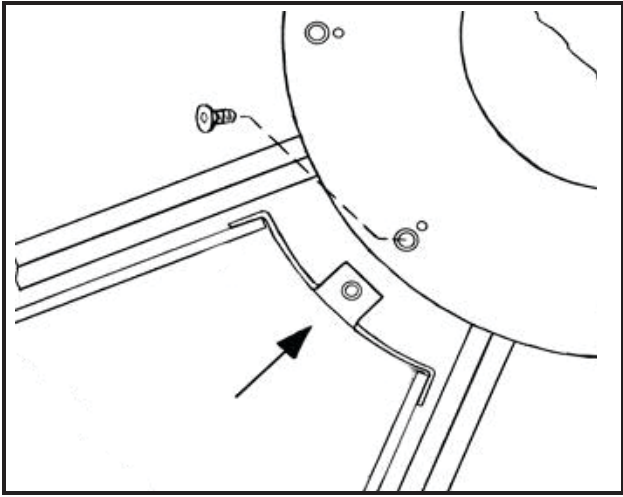

Fig. 35 — Nose to Hub Plate (ERC 81-86 ONLY includes screw)
5. For ERC-81 and ERC 86, use a 3/16 in. Allen wrench to remove the nose bolt securing the segment to the hub plate. See Fig. 35 for example to remove the nose bolt.
6. Remove segment by sliding outer portion of segment out first before disengaging the nose. See Fig. 35 for segment removal. A flathead screwdriver may be used to aid segment removal. Be careful not to bend the segment frame or wheel rim.
3. From the pulley side, slide segment into place nose first, then push outer portion of segment in to wheel frame. If you are installing an ERC-81 or ERC-86, use a 3/16 in. Allen wrench and the nose bolt to secure the segment to the hub. See Fig. 35 for segment placement.